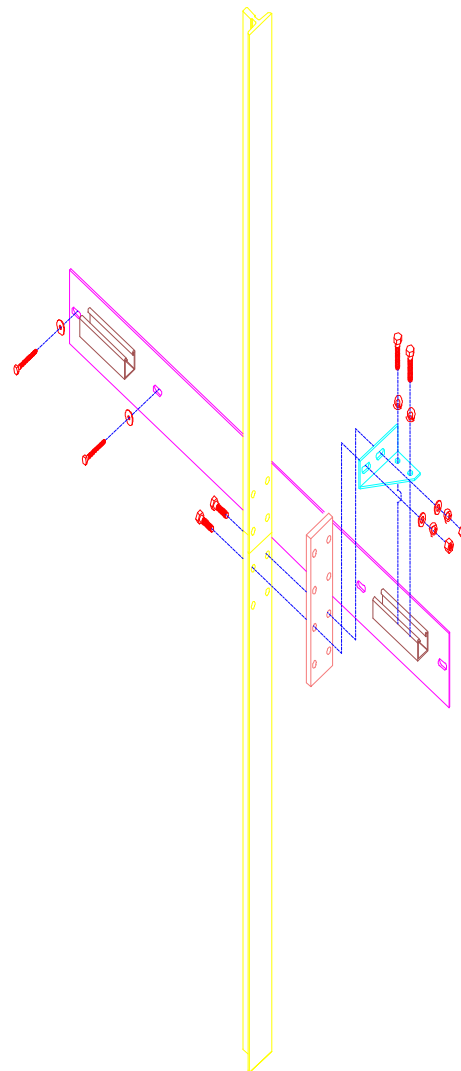

Figure 3
6. Loosely install rail bracket wall mounting angles to the bracket, then attach to wall with appropriate fasteners (Fig 3).